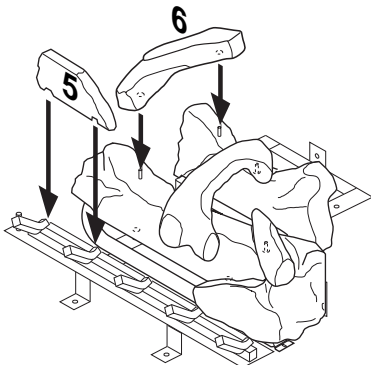

Figure 49 - Installing Logs No. 5 and No. 6
5. Place log #5 (base log) onto the front left part of the grate making sure the notches fit over the prongs of the grate). See Figure 49, page 26.
6. Place log #6 (left log) onto two pins on the left side of back and front log. See Figure 49.